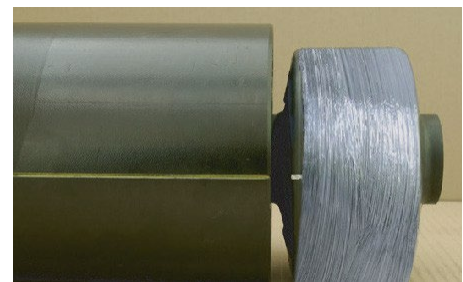

Fig. 10 - Correctly aligned pivot bushing
4. Insert the pivot bushing into the receiver tube end opposite of the centering ring. Make sure that the pivot bushing is properly aligned in the receiver tube using the bushing position locator as a reference point (Fig. 10). The bushing position locator of the replacement bushing must be aligned with the line on the outside of the receiver tube. The orientation index marked "Top" must face upward as illustrated in Fig. 10. If need be, readjust the pivot bushing.